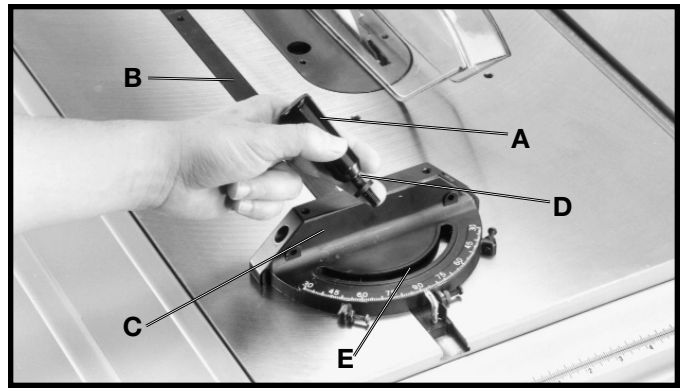

Fig. 47
Insert the miter gage bar (B) Fig. 47, into the miter gage slot. Insert the metal stud on the bottom of the miter gage body (C) Fig. 47, into the non tapped hole in the miter gage bar. Place a 21/64" flat washer (D) Fig. 47, onto the miter gage handle (A). Insert the threaded end of the miter gage handle (A) Fig. 47 through the slot (E) on the miter gage body and thread the handle into the miter gage bar (B).